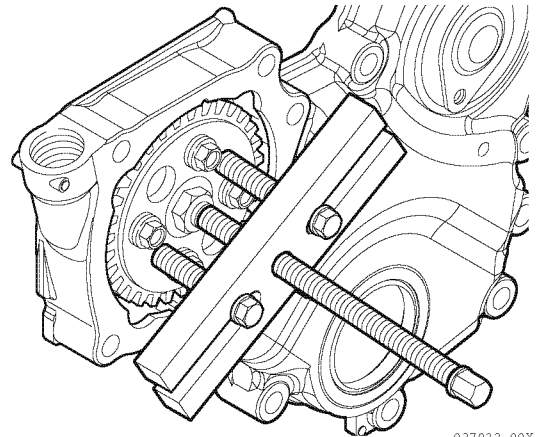

Figure 7-13
- Remove the injection pump drive gear and hub from the injection pump drive shaft as an assembly using an appropriate gear puller (Figure 7-13).